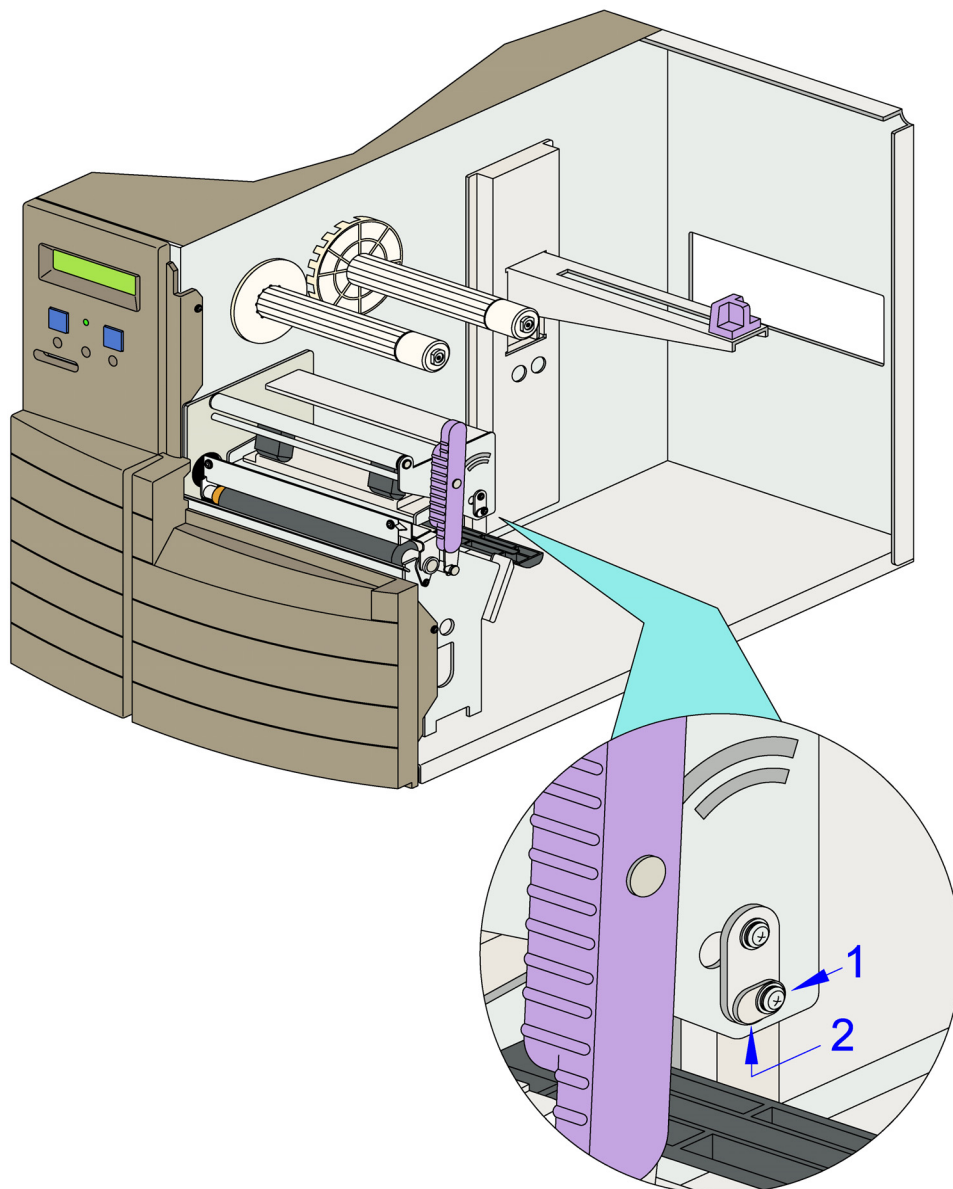

Figure 8-1, Print Head Balance Adjustment
To adjust the balance, begin test printing, slightly loosen set screw (1, Figure 8-1), and slightly move adjustment plate (2) to the right or left as necessary. Retighten set screw (1) while holding adjustment plate (2) when proper printing is achieved.